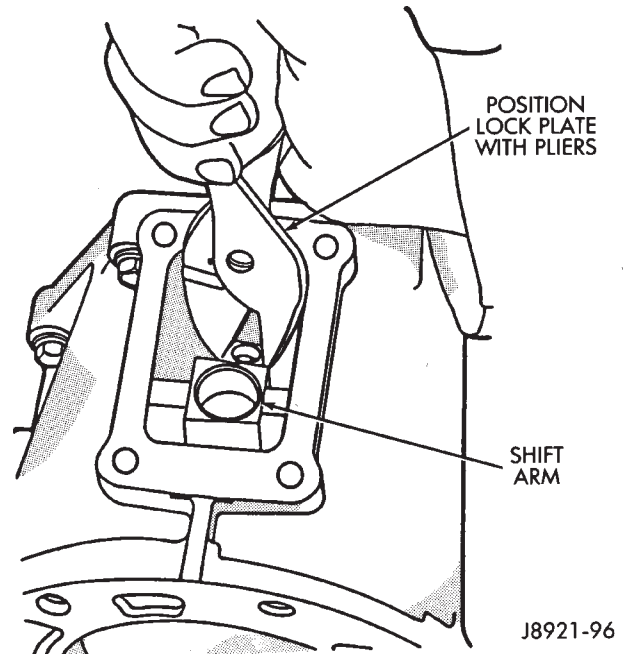

Fig. 89 Shift Arm Lock Plate Installation
(8) Install shift arm lock plate with pliers (Fig. 89). Then install and tighten lock plate set bolt to 38 N·m (28 ft. lbs.) torque.